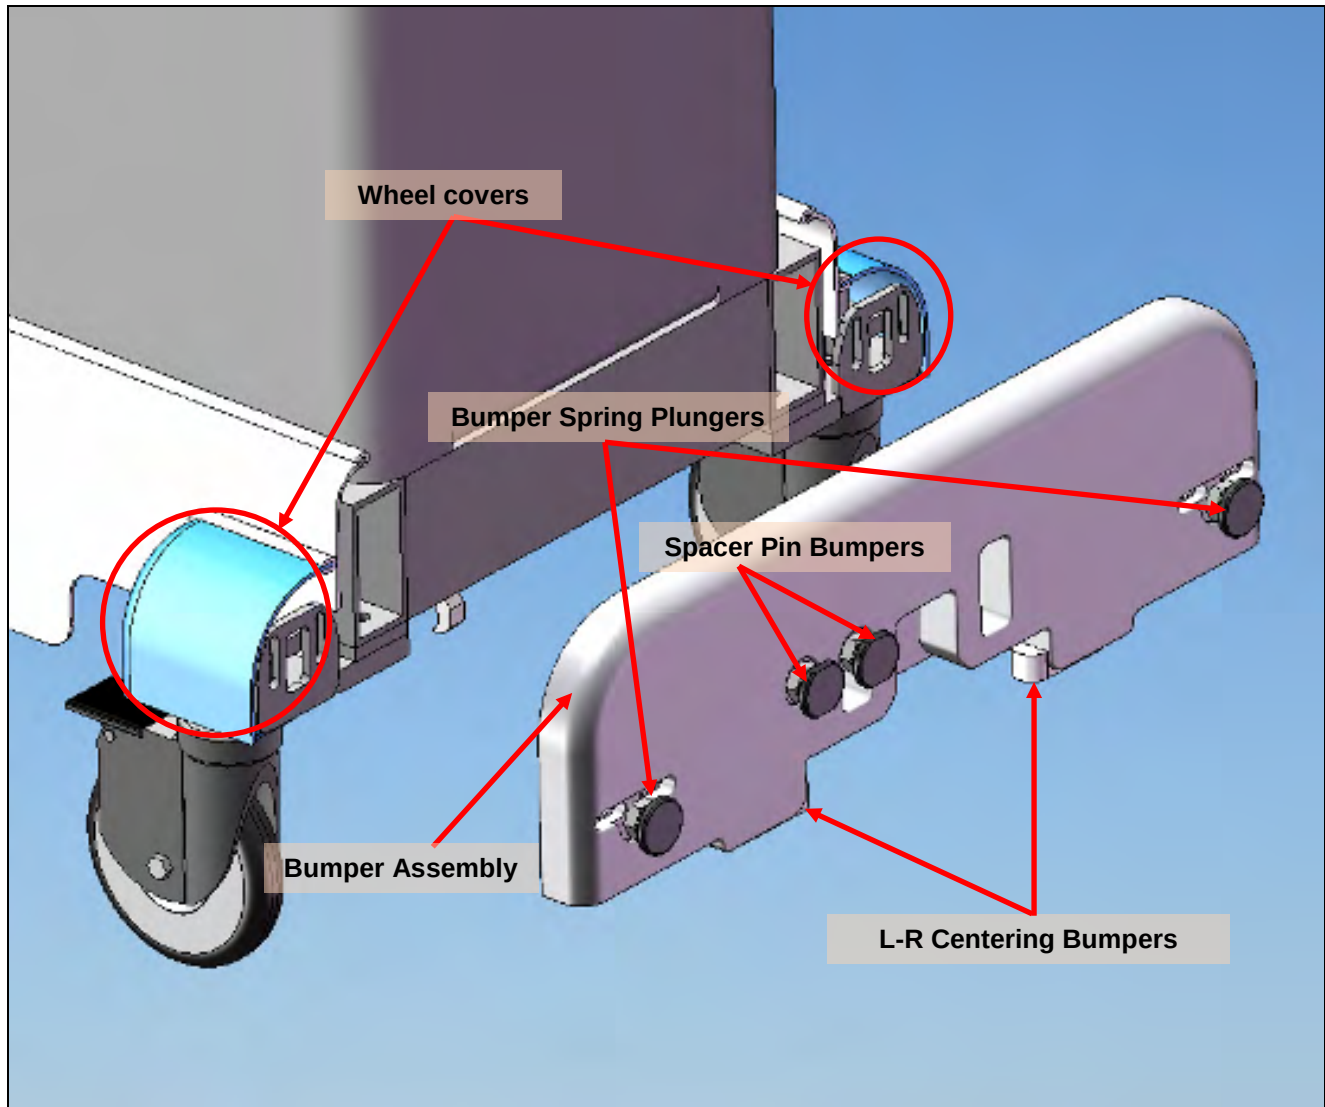

Figure 121
4. While supporting the bumper carefully unscrew the four mounting screws (above the Spacer Pin Bumpers in Figure 121) and remove the bumper.